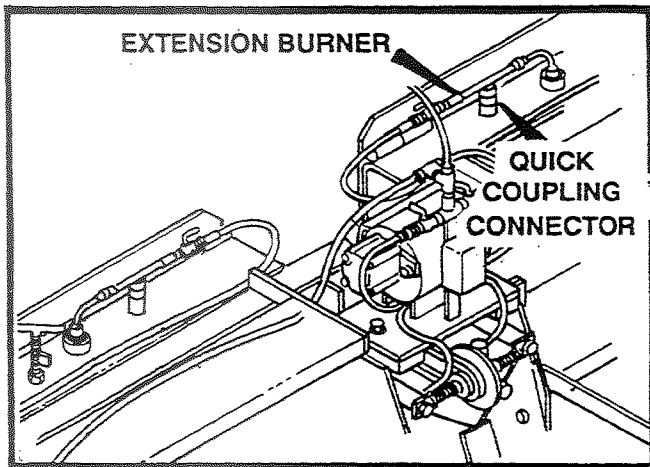

FIGURE 12
4. Extension burners are lit manually by removing from quick coupling connector. Turn valve on extension burner and use lighter to light. Place burner back into holding socket and repeat this process for opposite side. See figure 12.
6. The extension burners are held in position to the screed with a quick coupling connection. Remove the extension burner from quick coupling connector and light. See figure 12.